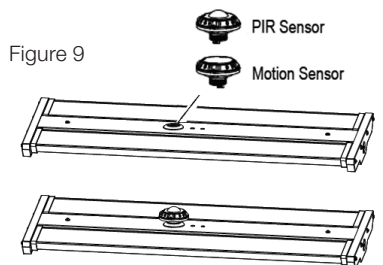

Figure 9
STEP 2: Twist-lock the DC sensor to the base to make it work properly: use a remote control to adjust the working mode of the sensor as desired (Figure 9).